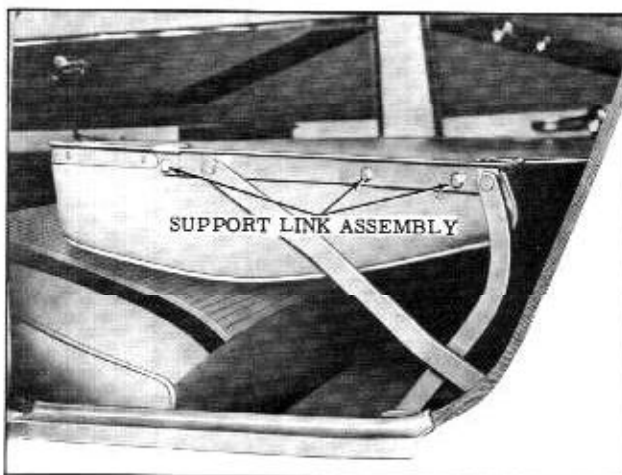

Fig. 15-67 Folding Seat Back Mounting Support Link Assembly
3. At each side of seat, remove screws securing mounting support link assembly to folding seat back assembly. (Fig. 15-67)
4. Remove mounting support to folding seat back attaching screws as shown in Fig. 15-67, and remove mounting support link assembly from body.